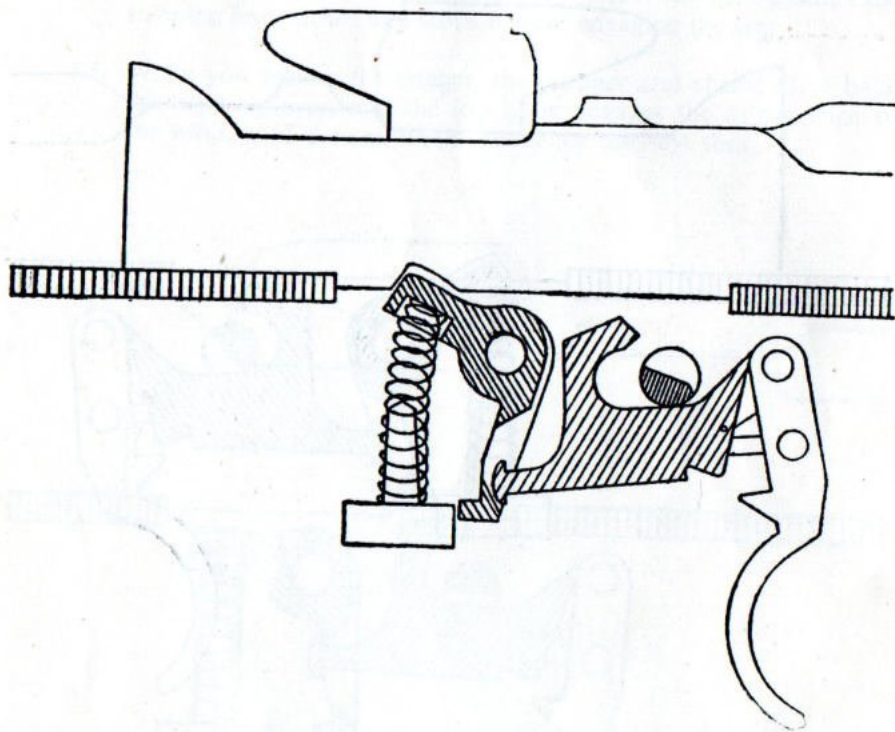

Fig 30.—The trigger released, after the change lever has been moved from " S " to " A " with the trigger pressed
- (b) If you move the change lever from " S " to " A " while the trigger is still pressed, its stem presses down the tail of the tripping lever; when you release the trigger, the lower hook cannot engage in the window of the sear, nor move the sear when you press the trigger again (see Fig 30); but if you then release the trigger, and move the change lever back to " S ", the tripping lever can rise, and the plunger and spring push it back until it engages in the window of the sear.